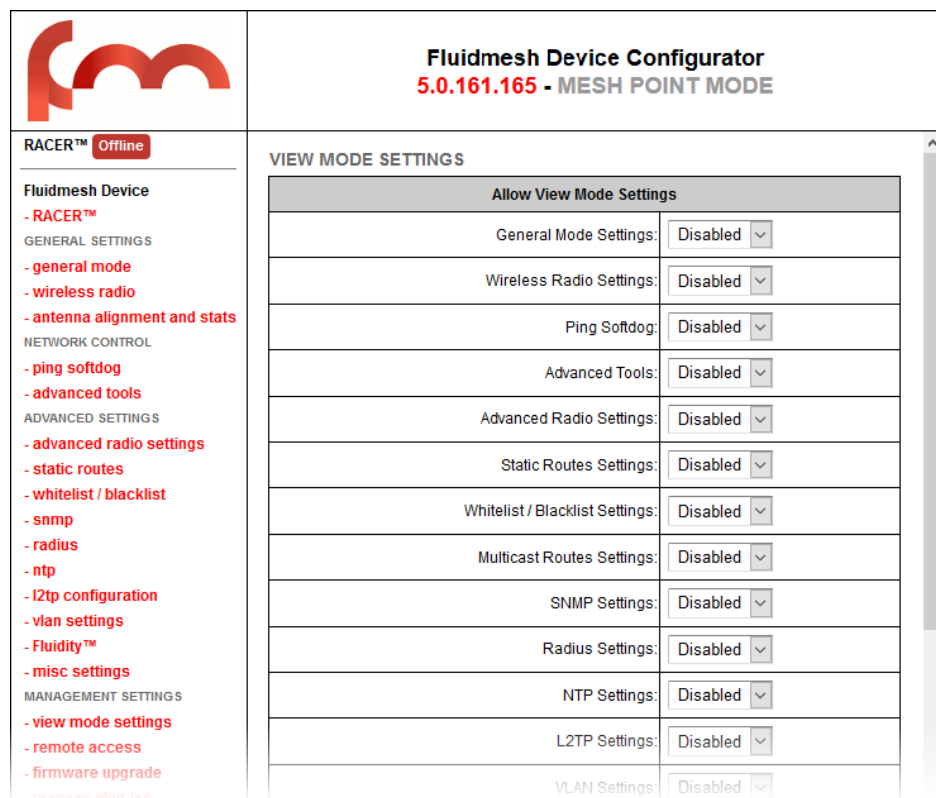

Figure 45. Configurator GUI (VIEW MODE SETTINGS dialog)
2. Click the **-view mode settings** link under **MANAGEMENT SETTINGS** in the left-hand settings menu (Figure 45 (page 93)).